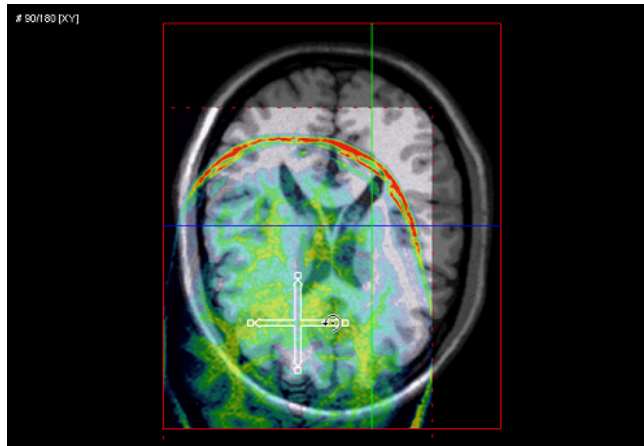

Figure 15.3: Rotate tool of the manual registration tool in the *Multiplanar Viewer*
- In the XY [Axial] viewer, move the mouse pointer over the outer third of the manipulator until the pointer turns into the rotate symbol (see Fig. 15.3).